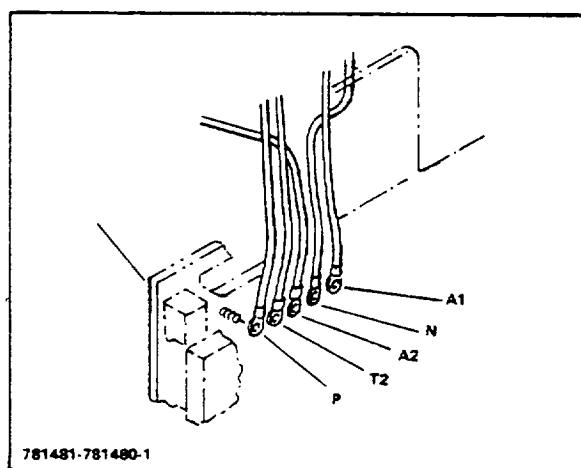

Figure 4-6. Static Panel Cabling
4. Install the electrical cables to the terminal studs on the static panel. Refer to Figure 4-6 for the proper cable installation.